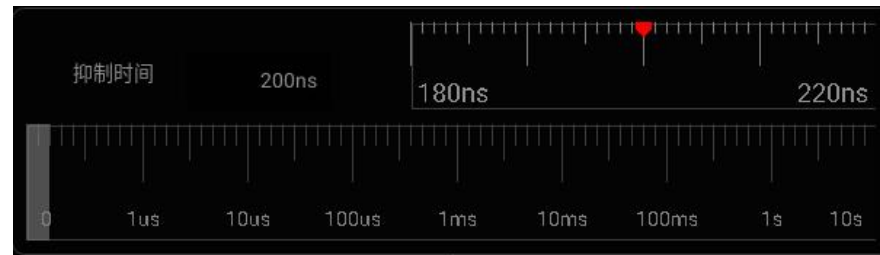

Figure 7-11 Trigger Hold-Off Time Set Interface
- 1) Tap “Trigger” on the main menu to open the trigger menu. Under “Common”, tap the box after “Rejection Time” to open the hold-off time adjustment interface. The trigger time is displayed on the upper left, the fine adjustment time scale is displayed on the upper right, and the coarse time scale is displayed below, as shown in Figure 7-11.